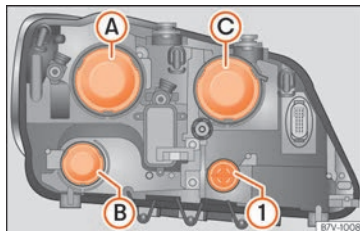

**Fig. 62** In the engine compartment: coatings on the left headlight.
- Rotate the bulb holder » Fig. 62 ① all the way to the left and pull it out backwards together with the bulb.